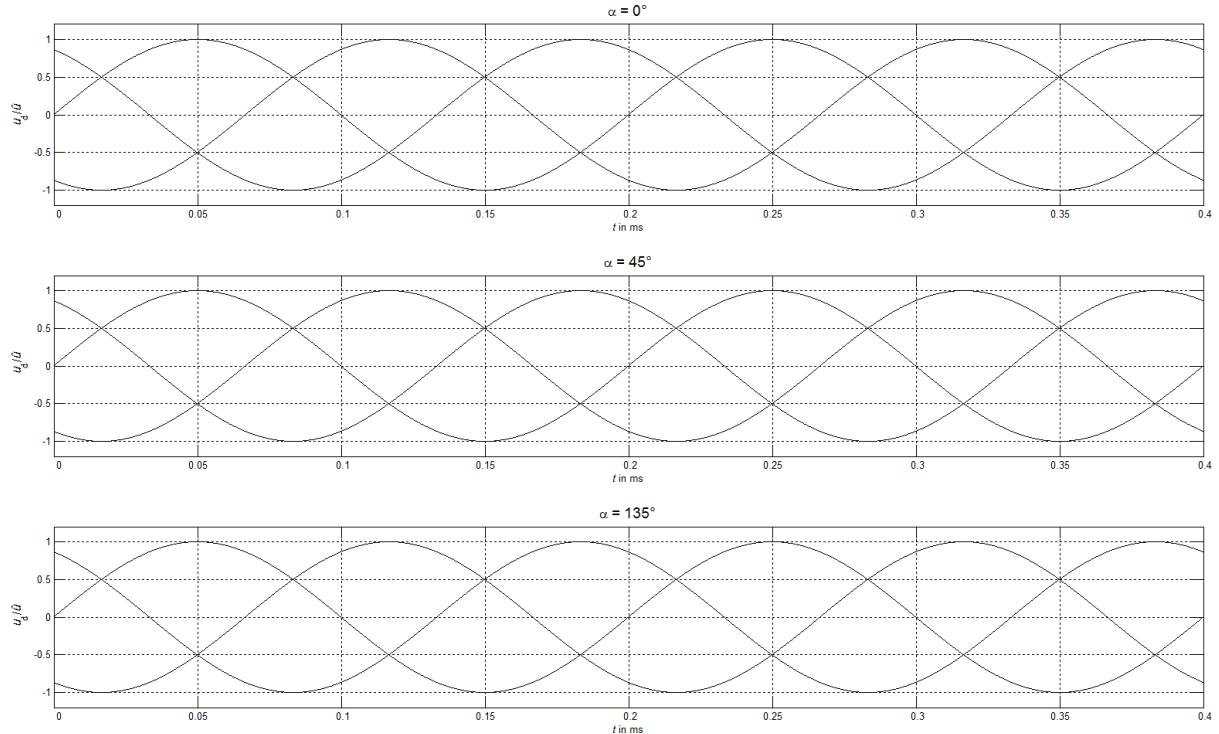

Figure 4.2: Normalized output voltage u_d/\hat{u} for different control angles
- 4.1** Sketch the output voltage $u_d(t)$ in the diagrams in Figure 4.2 for the control angles $\alpha = 0^\circ$, 45° and 135° . What is the control angle limit value α_L that represents the boundary control angle between CCM and DCM operation?